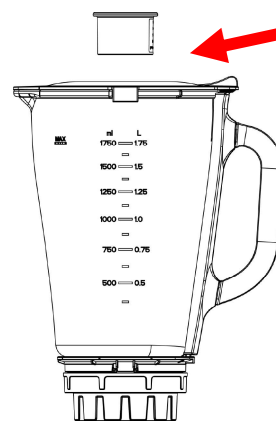

Fig.7
7. If you want to add ingredients while the blender is working, remove the measure cup and place through the lid opening. (See Fig.7)